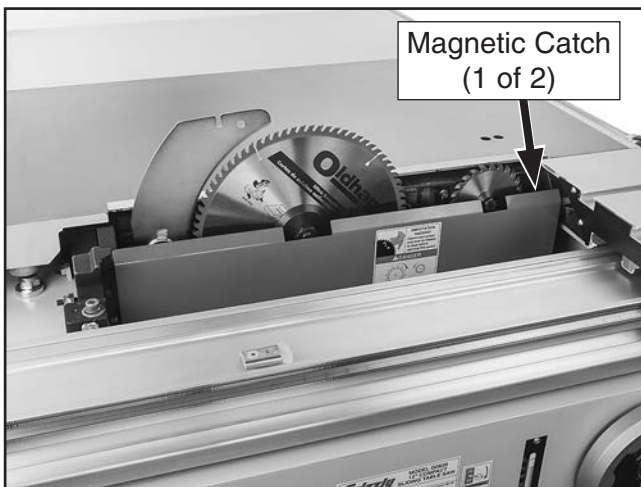

Figure 30. Location of magnetic catches that secure blade cover.
- Move sliding table all the way forward to expose blade cover. Pull blade cover toward front of machine to disengage magnetic catches (see **Figure 30**).